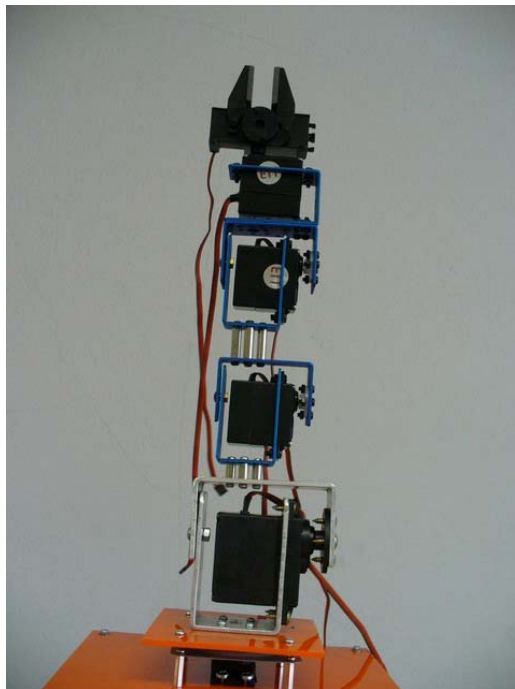

Figure 18 The arm and the base are connected.
1. Put the arm and the base together as shown in Figure 18. Put in the screw at the horn set piece and the brass boot. We are almost done.